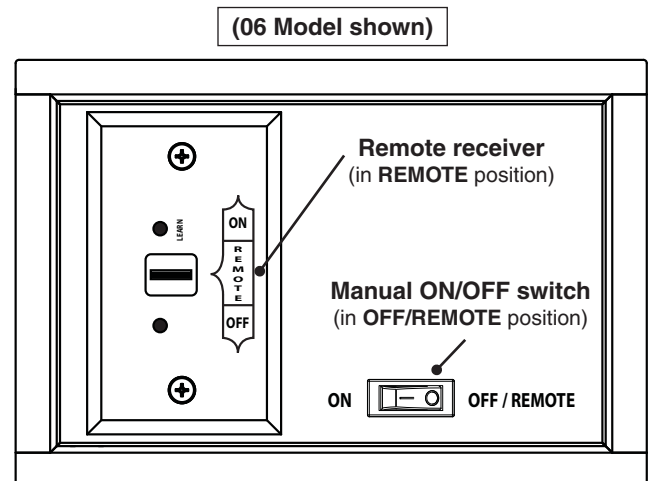

Fig. 35-1 Control panel detail
1. Ensure the manual ON/OFF switch is in the **OFF/REMOTE** position (see Fig. 35-1).
2. Locate the 3-position switch on the remote receiver (see Fig. 35-1), and slide the switch to the **REMOTE** position.